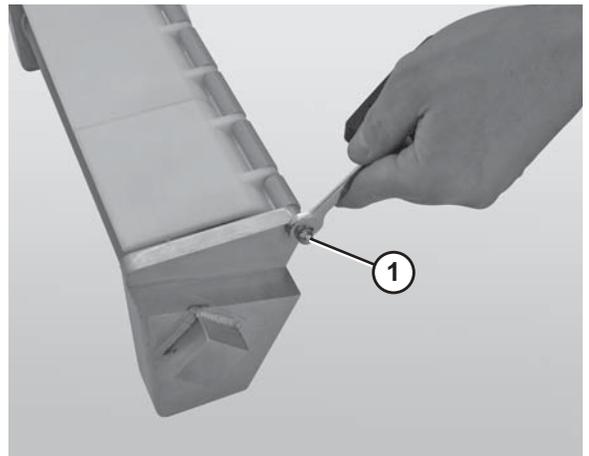

Figure 71
4. Use a 10 mm wrench to remove one of the acorn nuts (Figure 71, item 1) from the nose bar shaft.